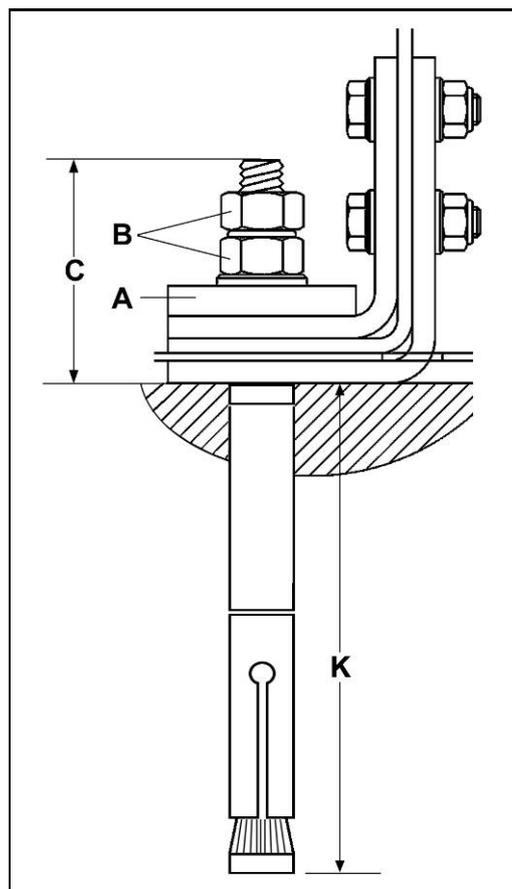

Fig. 2.7
**THIS FASTENING SYSTEM ALLOWS FOR THE IMMEDIATE USE OF THE WASHER BUT IT CAN ONLY BE APPLIED IF THE RESISTANCE OF THE FLOORING MATERIAL IS EQUAL TO OR GREATER THAN 25 N/mm2 (4000 psi) AND ITS THICKNESS IS GREATER THAN 50 mm (2 in) IN VALUE K ON FIGURE 2.7.**
#### Characteristics of the metal anchors (Fig. 2.7):
The fastening of the machine must be done by using the bolting down flat washers supplied with the machine (Fig. 2.7/**A**). THESE FLAT WASHERS ARE ESSENTIAL TO THE SECURE FASTENING OF THE WASHER.
Set the flat washers and tighten the nuts and locknuts (Fig. 2.7/**B**).